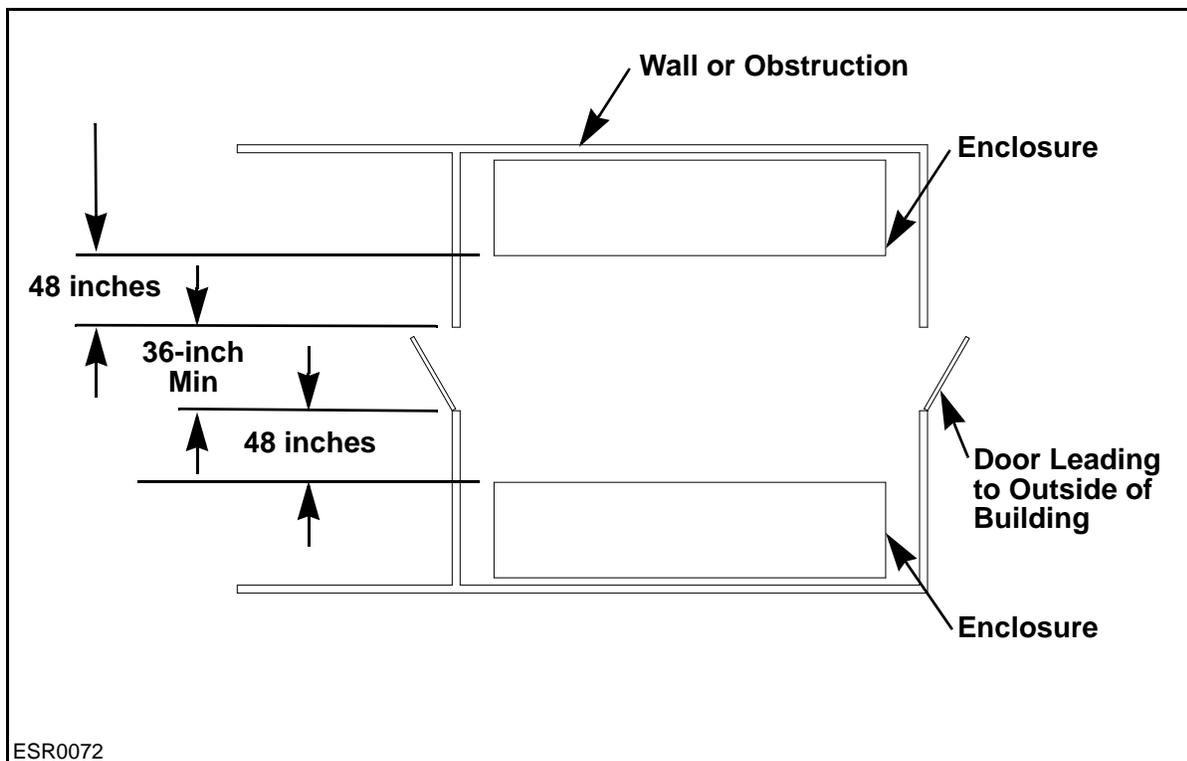

Figure 5-8: Workspace When There Are Two Enclosures and Two Doorways
- A minimum of 48 inches is required between enclosures when the equipment in the enclosures is 151 to 600 volts to ground. See **Figure 5-8**.